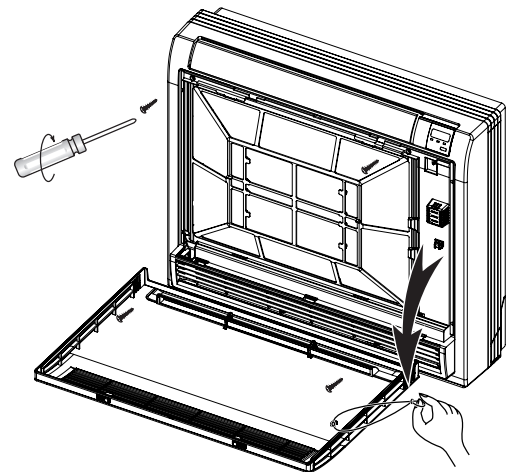

Figure 3.1.2
- 2) Open frontal grille to 90°, after removing the string (see Figure 3.1.2). Remove the grid from Indoor Unit, by detaching the bottom hinges. Unscrew the 4 screws of Indoor Unit's frontal panel (see Figure 3.1.2).